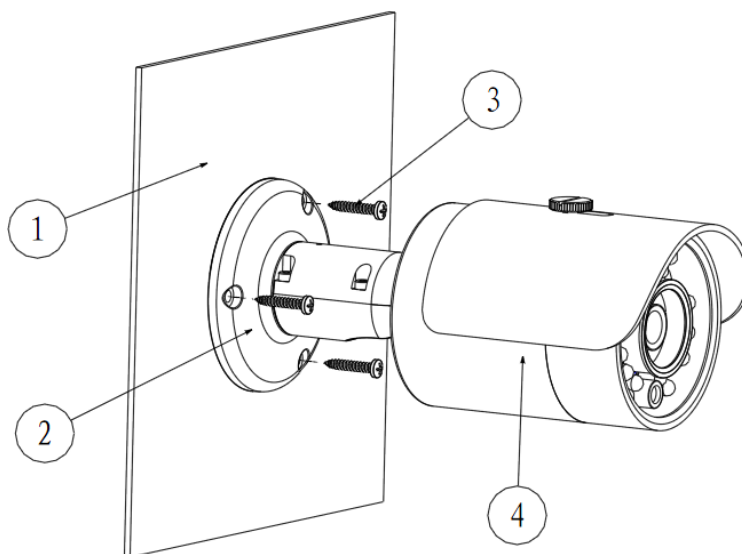

Figure 3-2
Please dig four installation holes in the installation surface according to the four holes of the bottom of the bracket. Insert four expansion bolts from the accessories bag into the holes and then use four self-tapping screws to secure the bracket on the installation surface. See Figure 3-2.
In Figure 3-2, ①Installation surface; ②Bracket; ③Screws; ④Camera.